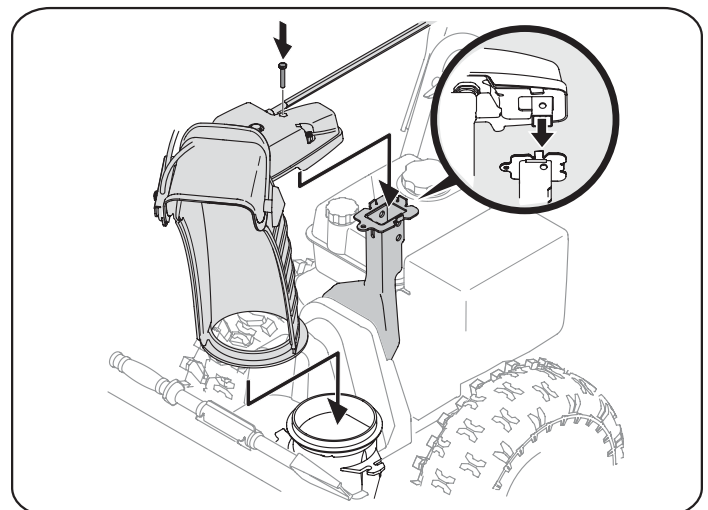

Figure 4
3. Place chute onto chute base with the chute control rod positioned *under* the handle panel. Reinstall the hex bolt previously removed *but do not secure with wing nut at this time*. See Figure 4.